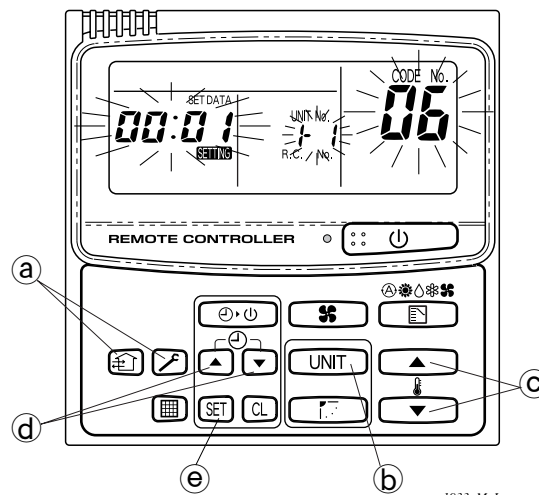

Fig. IV-10
**(G) Change the shift temperature in heating mode (Ref. Fig. IV-10)**